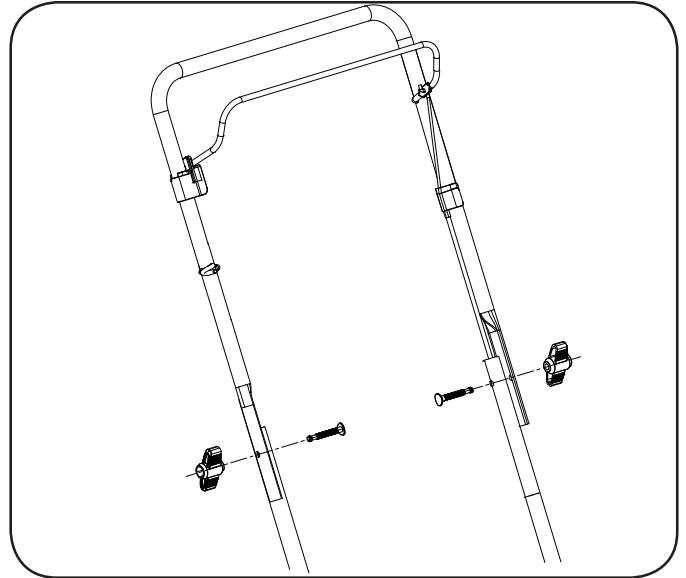

Figure 3
2. Connect the upper handle to the lower handle by bolts and star knobs (Figure 3).